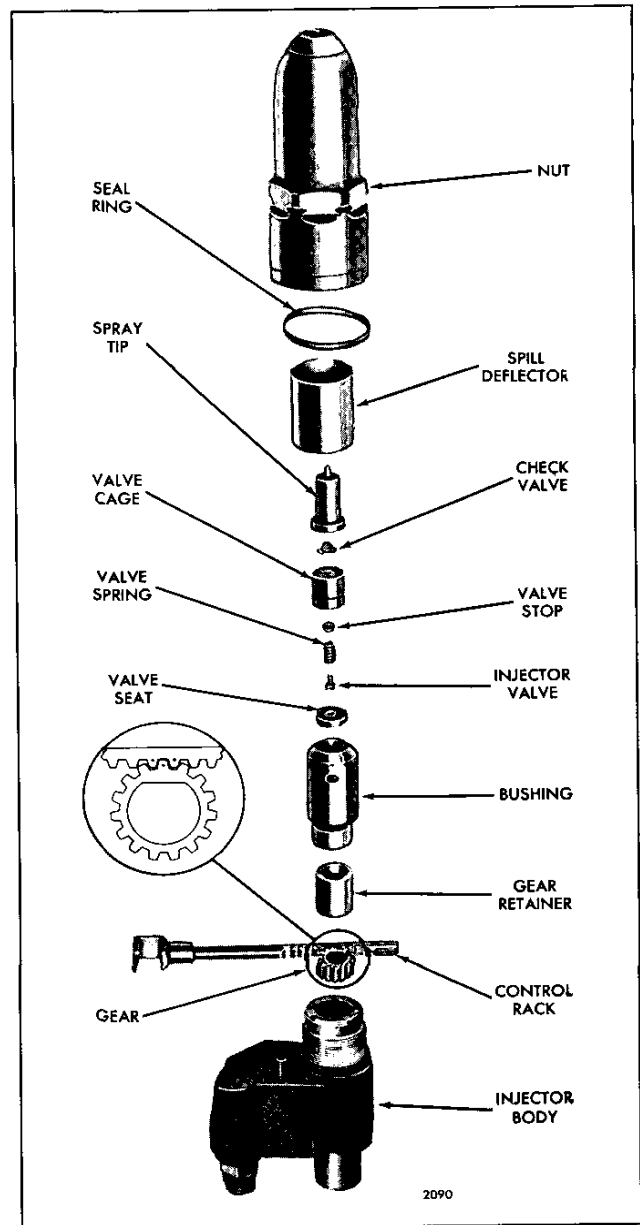

Fig. 29 – Injector Rack, Gear, Spray Tip and Valve Assembly Details and Relative Location of Parts
9. Refer to (Fig. 29) and note the marked teeth on the control rack and gear. Then, look into the body bore and move the rack until you can see the drill marks. Hold the rack in this position.
10. Place the gear in the injector body so that the marked tooth is engaged between the two marked teeth on the rack (Fig. 29).